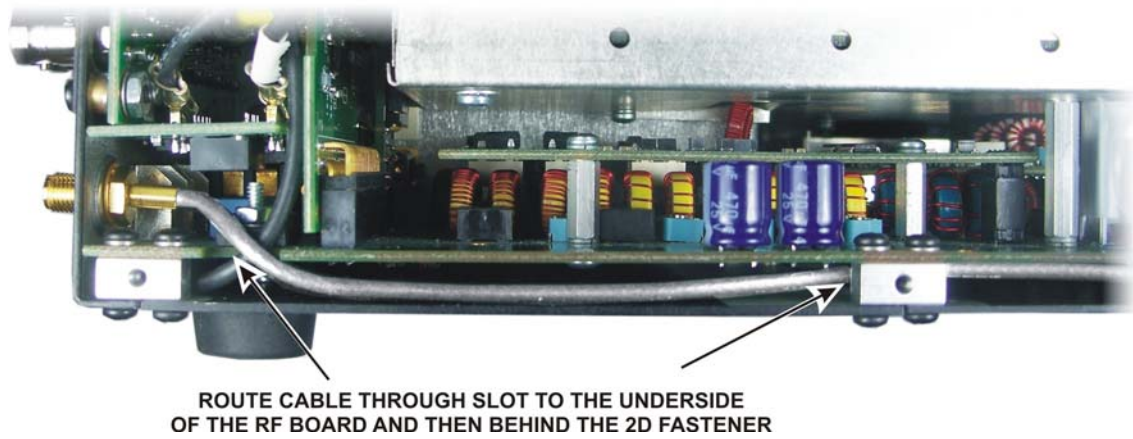

Figure 4. Routing the SMA-TMP Cable Under the RF Board.
□ Route the cable under the RF board and toward the front of the K3/K3S as shown in Figure 4. Keep the cable near the edge of the board as shown.